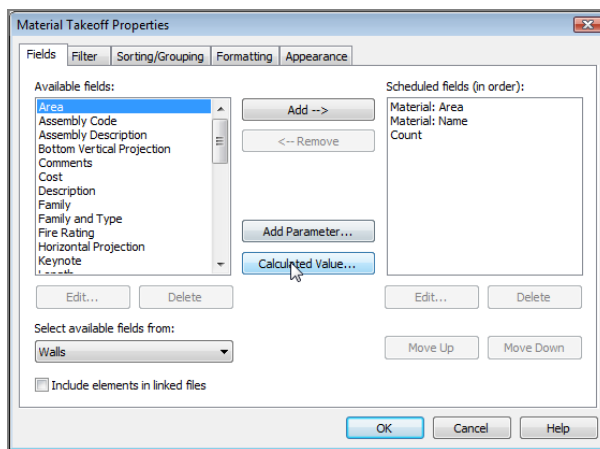

FIGURE 11.34: Click the Calculated Value button in the middle of the dialog box.
3. On the Fields tab in the Material Takeoff Properties dialog box, click the Calculated Value button, as shown in Figure 11.34.